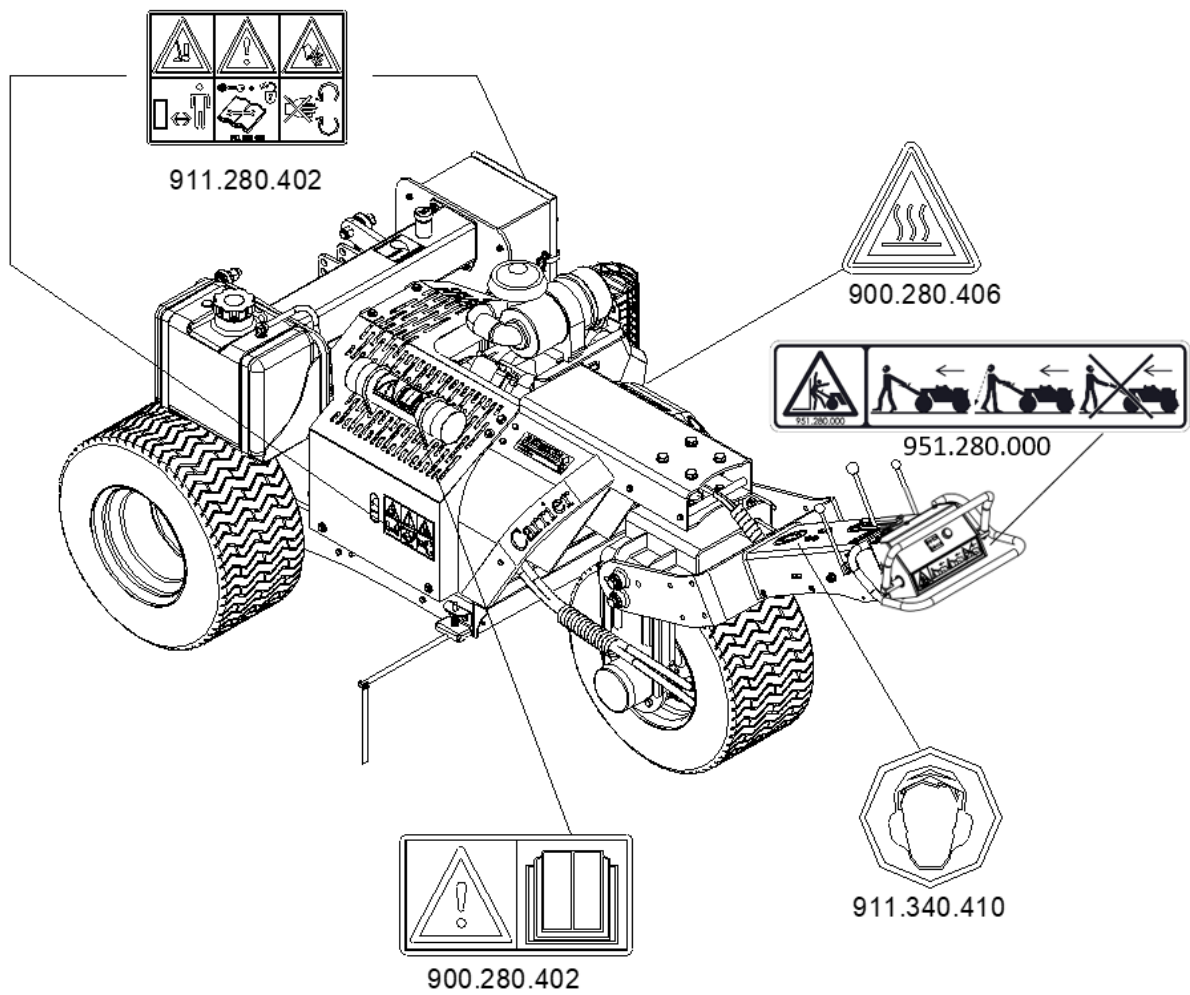

Figure 7
8. Location of the safety stickers (Figure 7).